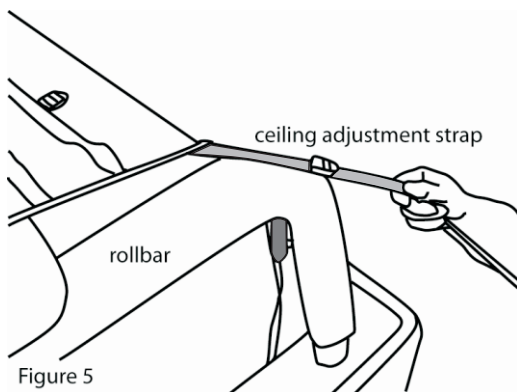

Figure 5
Step 9. Locate the ceiling adjustment straps (at rear corners on ceiling panel). Gently pull the strap over the rollbar, and around the seatbelt stud (toward the inside) and back up to the strap adjustment buckle. Tighten snug, and perform same procedure on the other side. Check top for evenness from side to side. See Figures 5, 6, 7, & 8. **NOTE: if there is no rear seat belt assembly installed in the vehicle, use the included bolts and spacers to allow installation of the straps.**